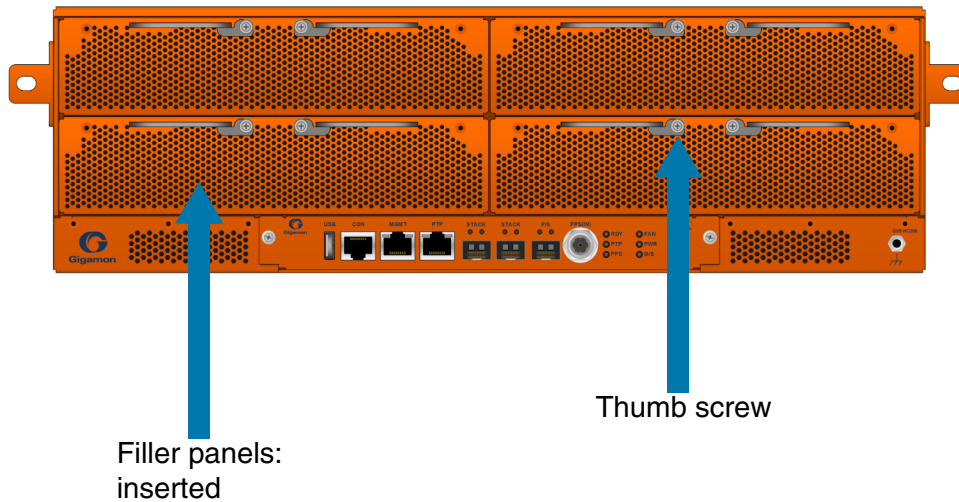

Figure 3-8: Filler Panels Inserted
3. Locate the protective filler panels in the bays. Refer to Figure 3-8 on page 64.